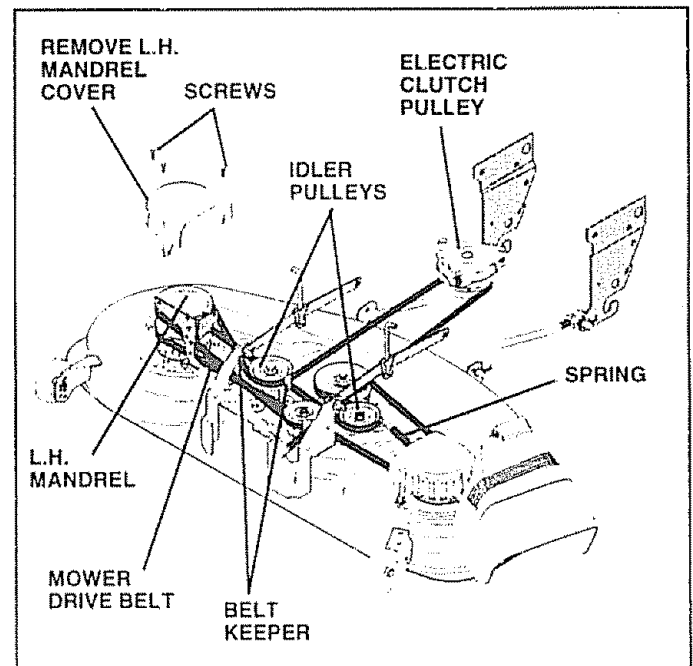

FIG. 25
**MOWER DRIVE BELT REMOVAL** (See Fig. 25) -
**MOWER DRIVE BELT INSTALLATION** (See Fig. 25) -